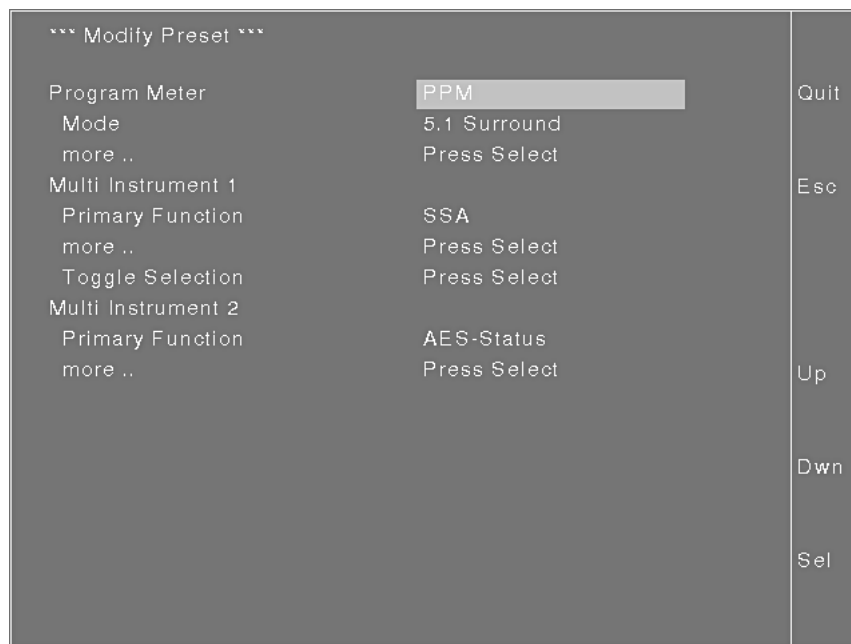

Fig. E 5-2: The Modify Preset menu of the SurroundMonitor 10600/10660-VID
- on **Modify Preset** menu (Fig. E 5.2):
The PPM mode (**Mode**) can be changed directly in the **Modify Preset** menu with the **Sel** key while all other options can be accessed after pressing **Sel** when the **more ..** option is highlighted (see Fig. E 5-2).
on Modify Preset menu (Fig. E 5.2):